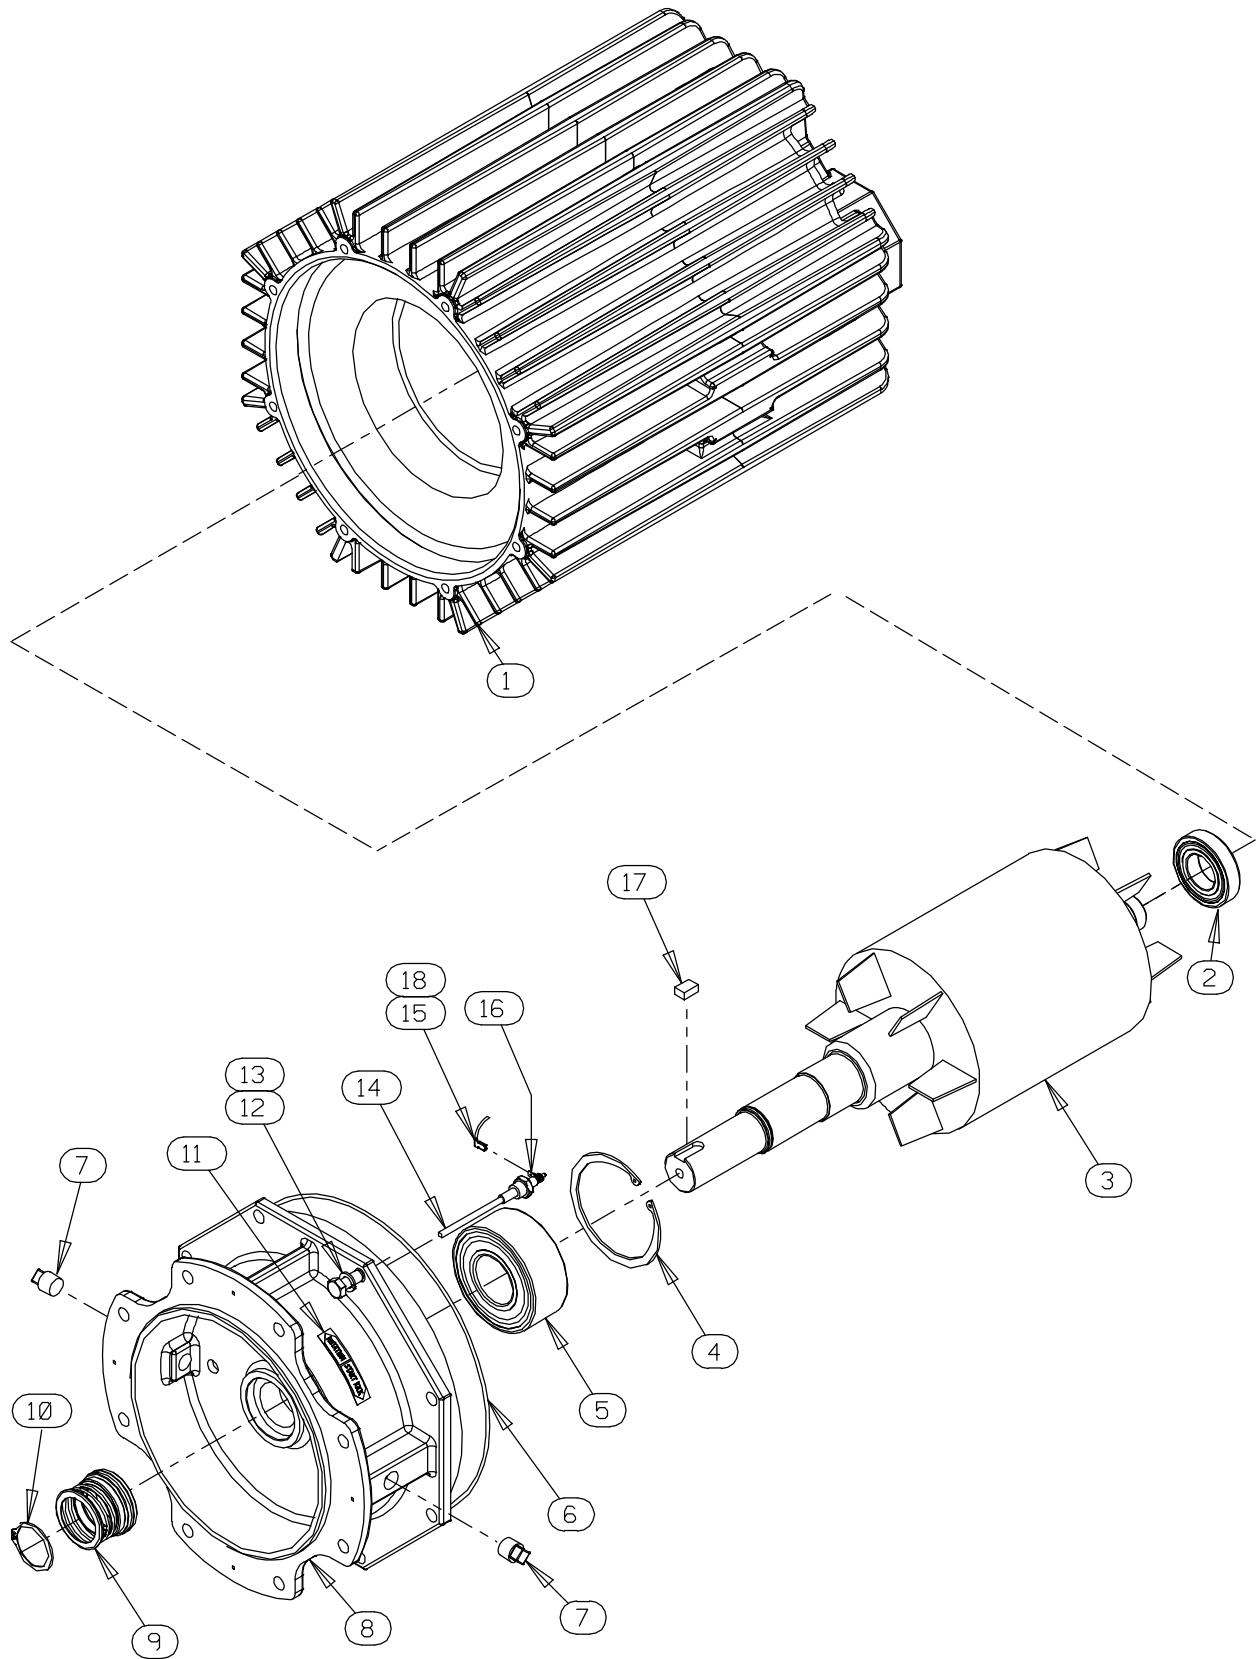

Figure E-2. Motor Assemblies
#### (Figure E-2)
To remove the impeller, use two thin-bladed screwdrivers positioned 180° apart to pry on the back of the impeller and “walk” the impeller off the shaft. Use increasingly larger screwdrivers (or wedges) as necessary. After the impeller comes free of the shaft, retain the impeller key (17, Figure E-2).
*An alternate method of removing the stationary element is to remove the screws (22) securing the seal plate (20) to the motor assembly (9). Pry the assembled seal plate and stationary element off the shoulder of the intermediate (8, Figure E-2). Remove the O-ring (8) and press the stationary element and seat out of the seal plate from the back side.*
(Figures E-2 and E-3)